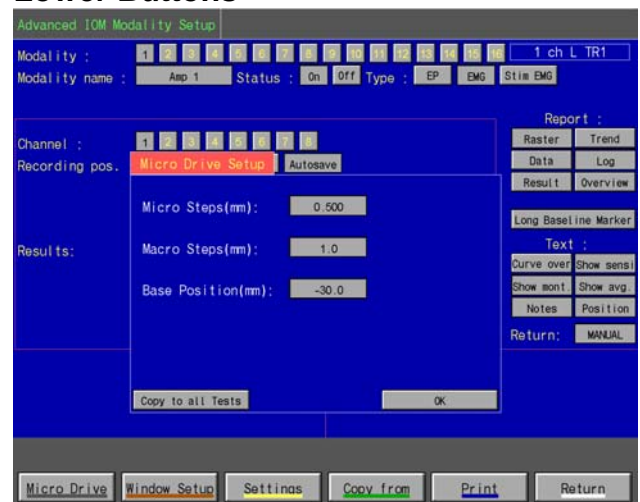

Figure 104 The Micro drive Setup Menu
- Click the **MicroDrive** button - thus providing the Micro drive Setup Menu. Here, distances in Micro steps, Macro steps and Base Position can be preset, see Figure 104 above.